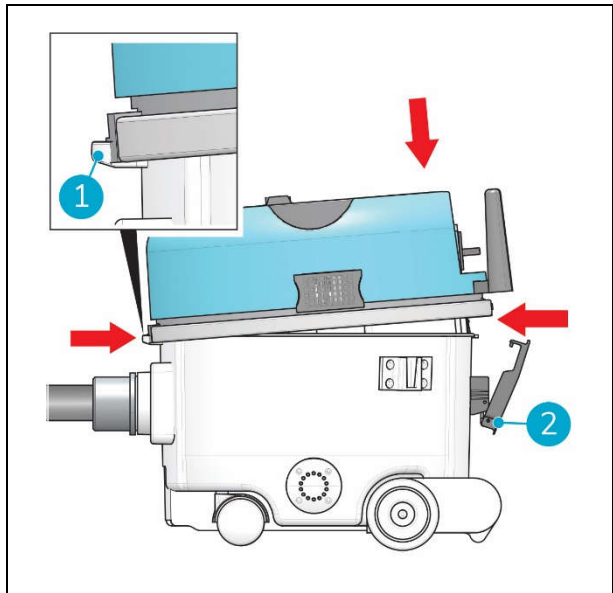

Figure 16
14. Make sure that the opening in the head fits around the neck on the can (fig 16, pos 1).
15. Fasten the latch (fig 16, pos 2).